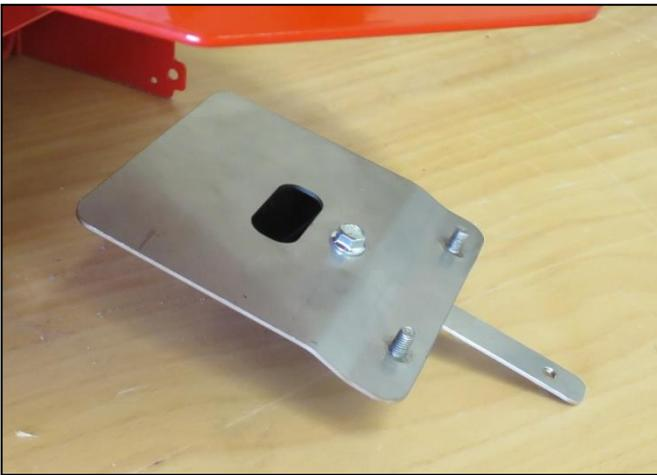

Fig.: 119
- Install the impact point adjustment and the adapter plate of the disc spreader with the enclosed flange nuts (BN14476-M6), a hexagon bolt with flange (AAN13-M6x16) and the washers (BN1075-M6), as shown in Fig.: 119 and Fig.: 121.